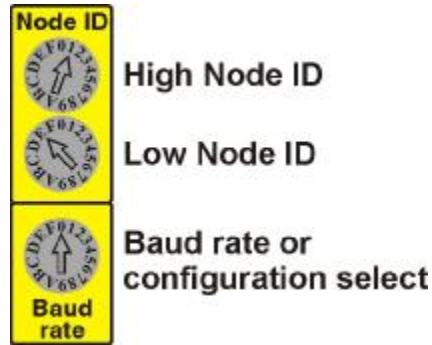

Fig. 8.8 – HEX Switches for Node ID, Configuration or Baudrate
3. Select the appropriate Node IDs by using the Node ID HEX switches (Fig. 8.8).
4. Select the appropriate module' action by using the Baud (configuration) HEX switch (Fig. 8.8).
The selection of Node ID, of Baud rate and Configuration is accomplished by the appropriate HEX Switches (Fig. 8.8) in accordance with the instructions outlined in Tables 8.1 to 8.4.